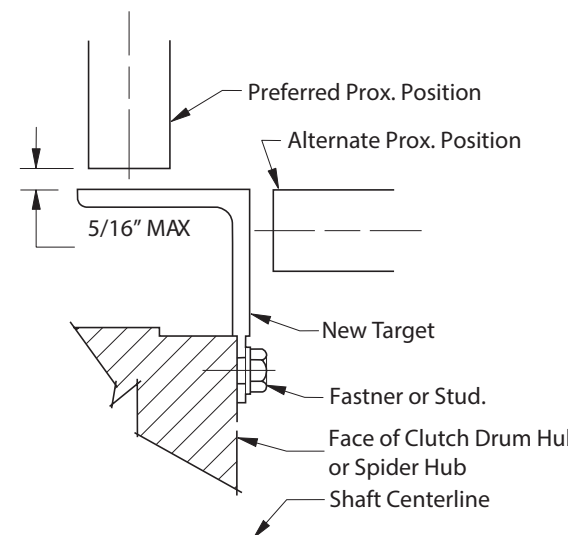
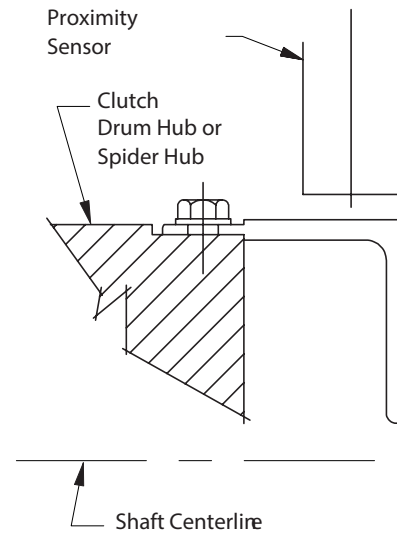

Figure 1
Figure 2
- 3.3.4 Orientation of the target is dependent upon ease of drilling and tapping of the hubs to accept the fasteners. Recommended position is similar to that shown in Figure 1, to allow for ease of clutch maintenance without disturbing the position of the proximity sensors. Target orientation shown in Figure 2 allows for radial fastener installation in the event that axial clearance is limited. Ensure that the target location will not interfere with guarding or adjoining bearing housings, etc. that may damage the target during operation.